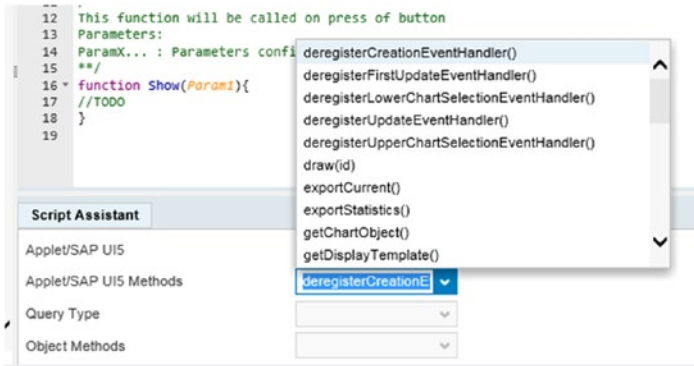

Figure 7-80. Available UI5 methods in SSCE
- *Applet/SAP UI5 Methods*: Lists the base applet names along with SAP UI5 object methods. See Figure 7-80.